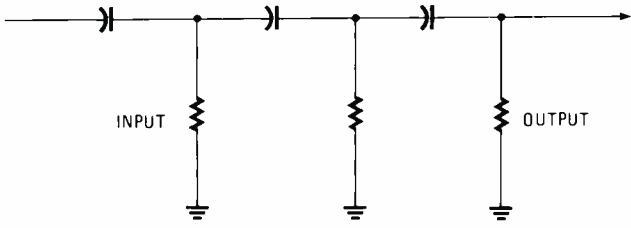

Fig. 17—A three-section RC high-pass filter is nothing more than three cascaded basic RC high-pass filters.
39. (capacitive reactance) The formula given earlier for computing the cut-off frequency if R and C are known can also be used on HPF's. Further, the output roll-off rate is the same at 6dB per octave. High-pass RC sections may also be cascaded to achieve a sharper response curve, but as with multiple low-pass sections attenuation is very high. Figure 17 shows a three section HPF.